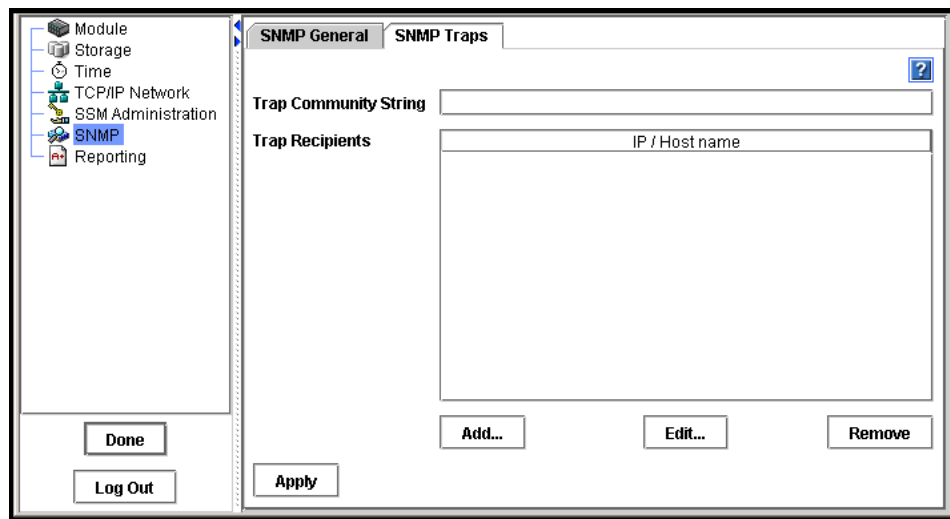

Figure 117. Enabling SNMP Traps
3. Select the SNMP Traps tab. The SNMP Traps window opens, shown in Figure 117.